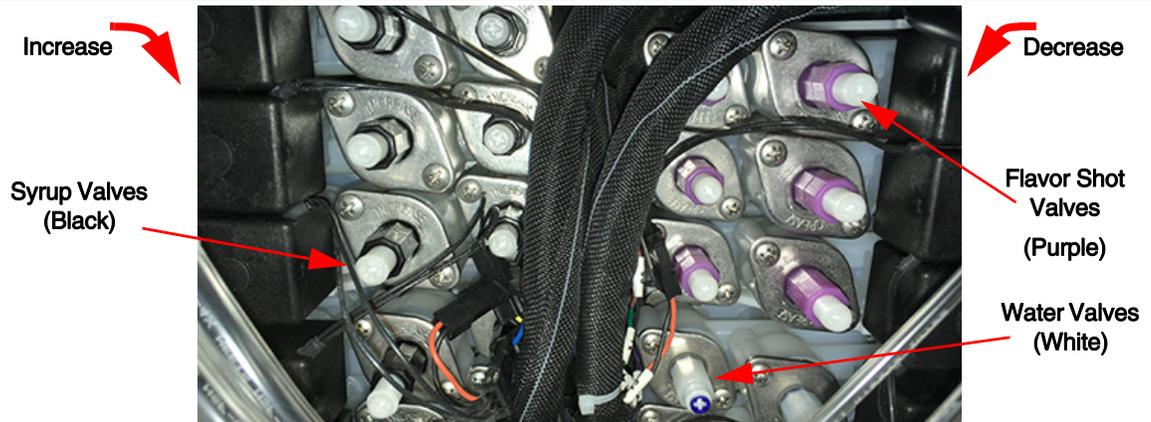

Figure 31
- During the 4 Second **Brix** Calibration process, you may need to adjust the flow of the valve selected. See Figure 31.